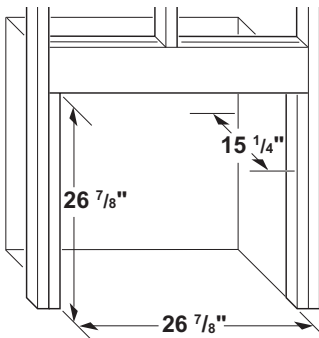
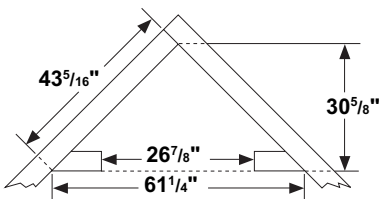

Figure 8 - Rough Opening for Installing in Wall
Figure 9 - Rough Opening for Installing in Corner
1. Frame in rough opening. Use dimensions shown in Figure 8, page 11, for the rough opening. If installing in a corner, use dimensions shown in Figure 9, page 11, for the rough opening. The height is 26 7/8" which is the same as the wall opening above.